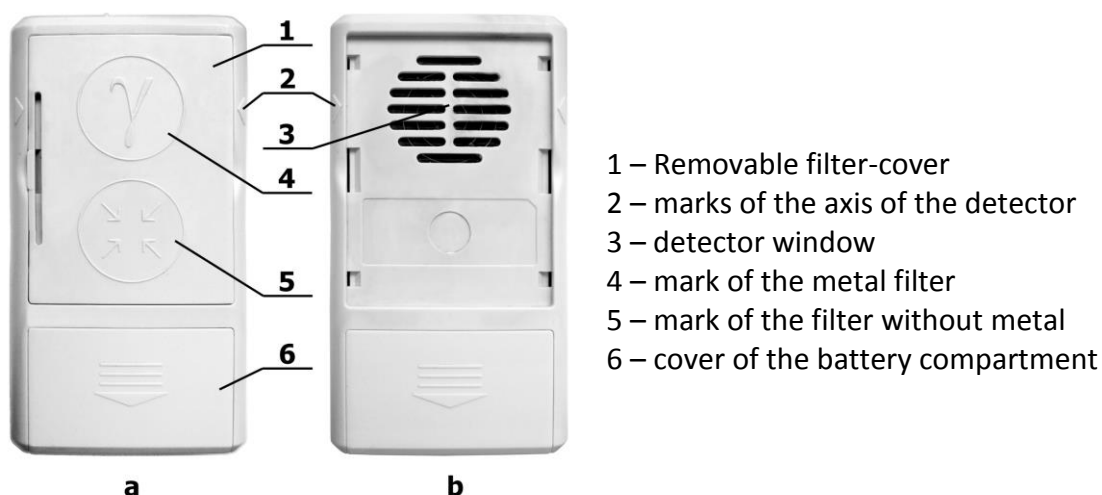

Fig. 3 Appearance of the rear side of RadiaScan-701
Appearance of the rear side of RadiaScan-701 with installed filter-cover is shown in Fig. 3.a, with removed cover – Fig. 3.b.
- detector window is covered with metal filter, as shown in Fig. 3.a;